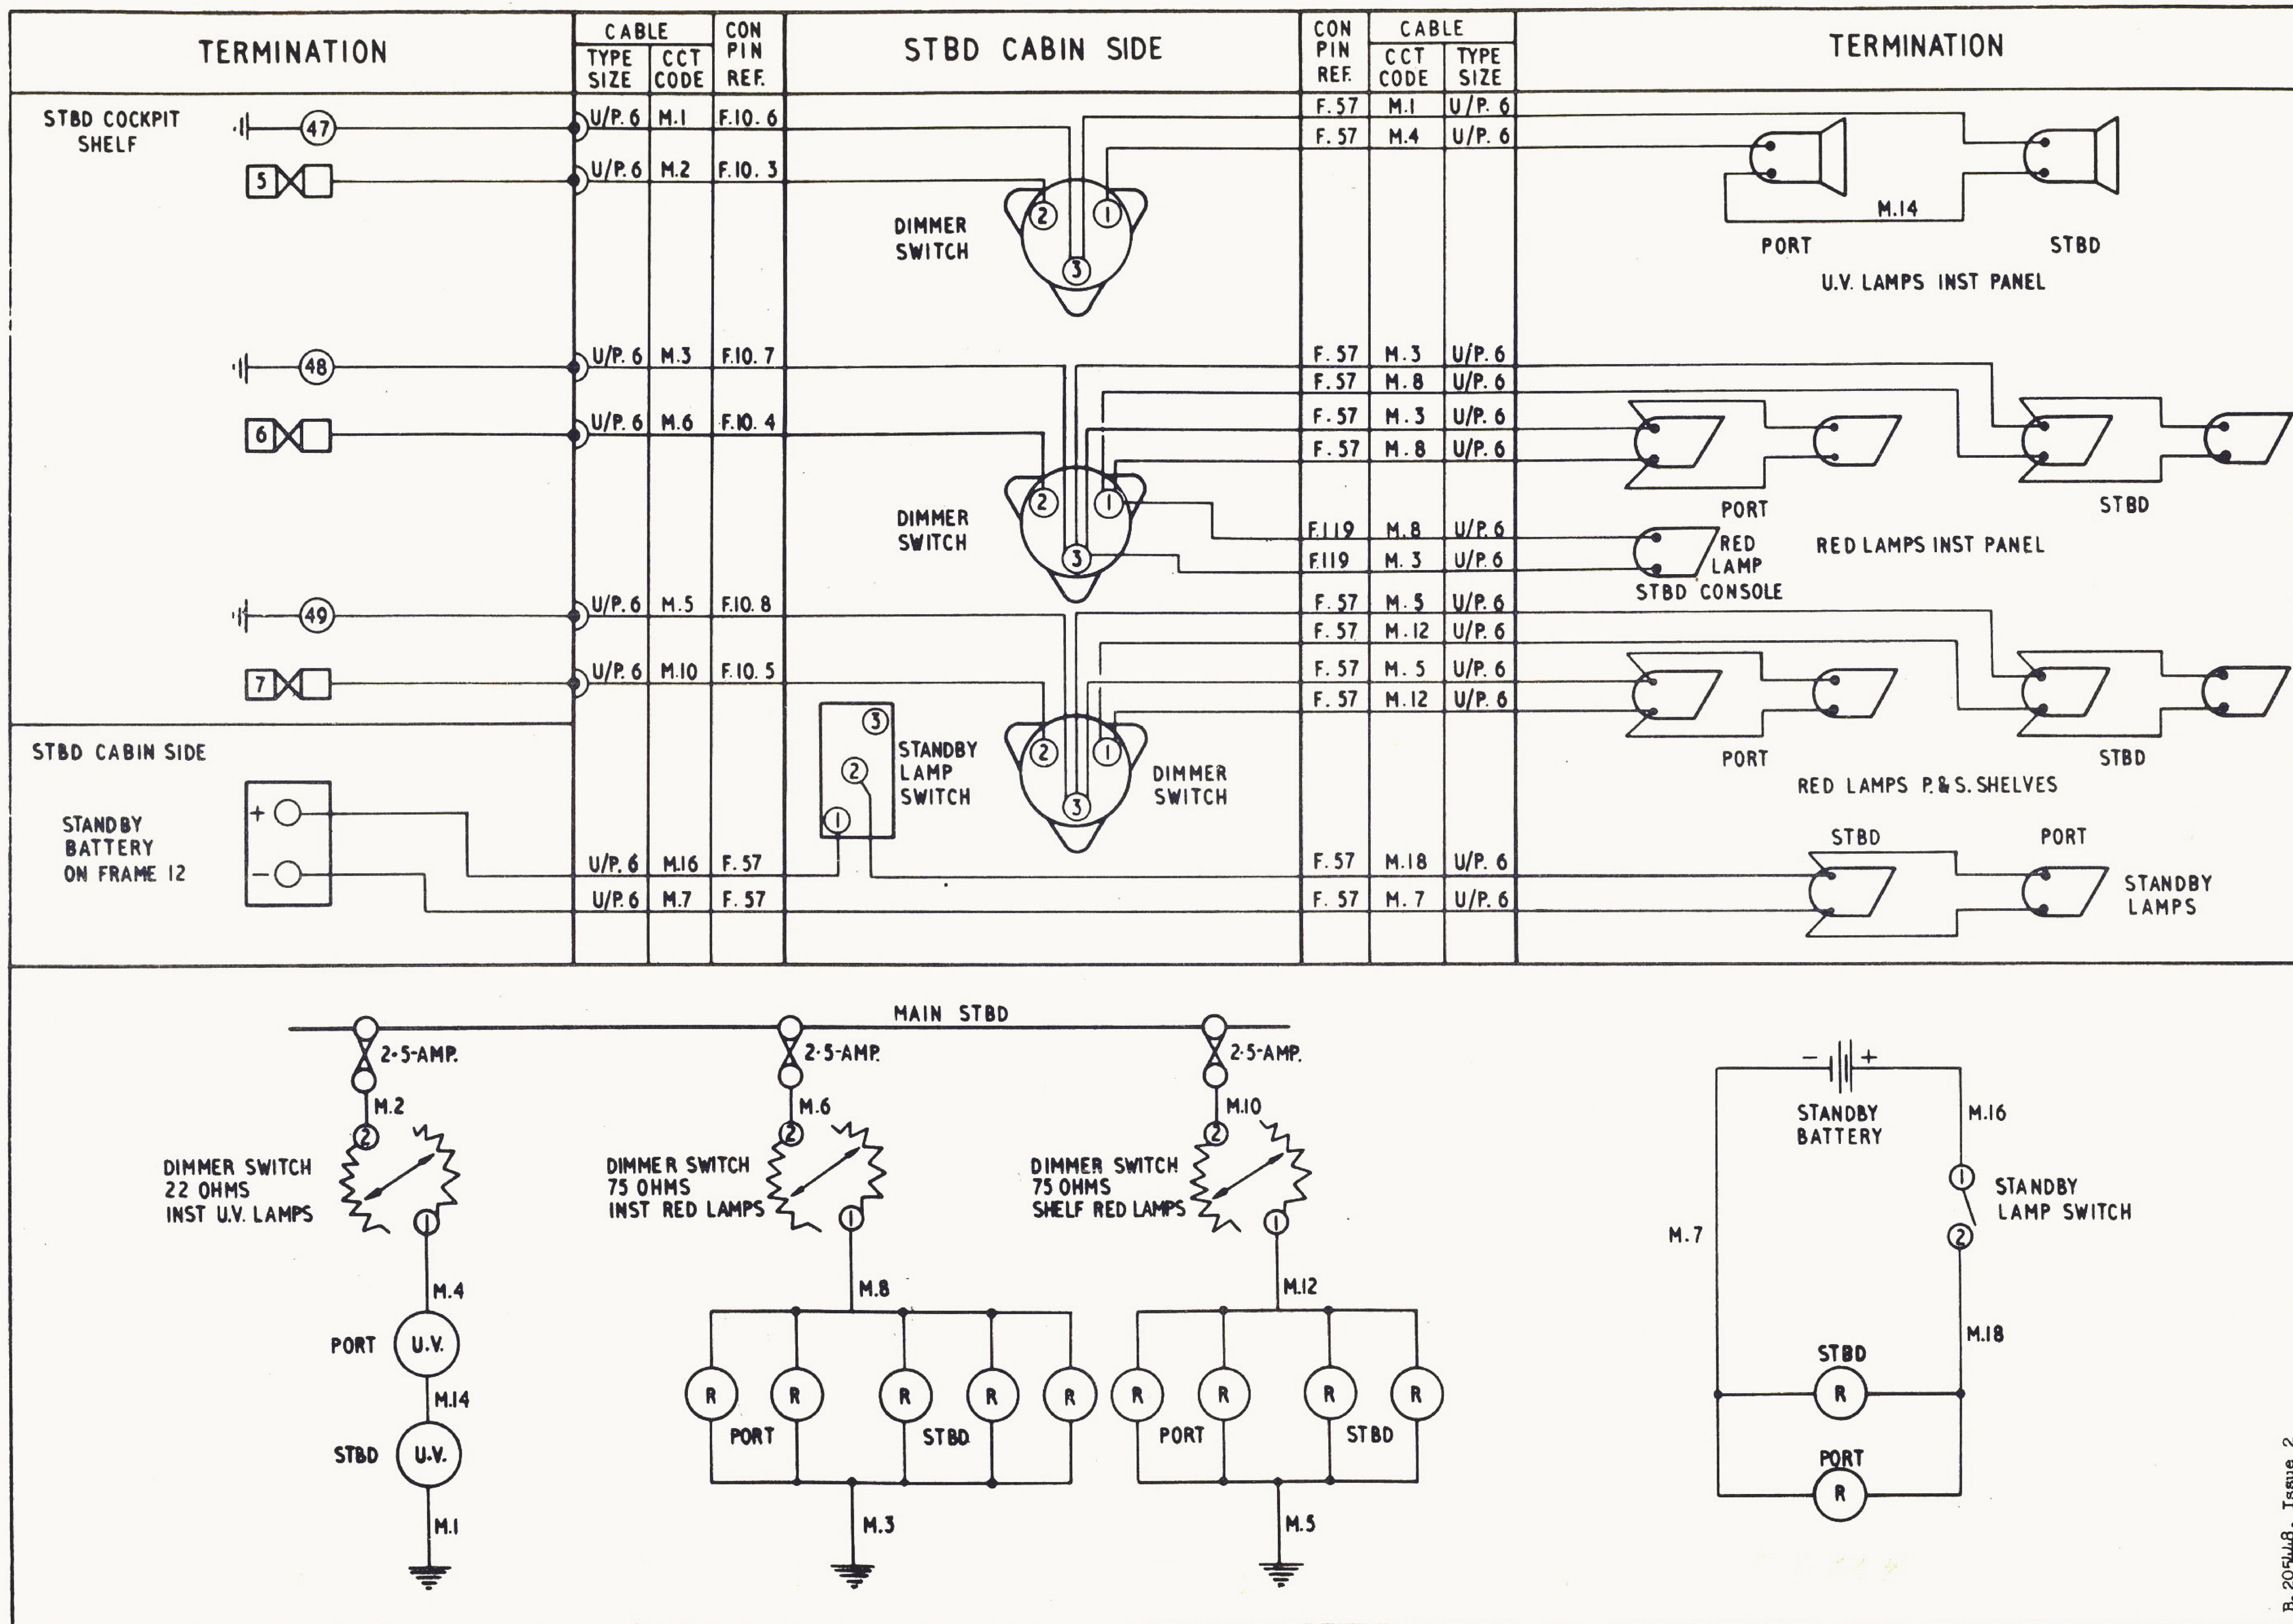

FIG. 1 CABIN LIGHTING RESTRICTED
2. The cabin lighting installation consists of four separately controlled circuits supplying lamps to illuminate the instrument panels and cabin shelves. The following paragraphs describe each of these circuits in turn. Routing and theoretical diagrams of the circuits are given in fig.1.
7. The operation of the circuits should be obvious once reference is made to the theoretical diagrams, given in fig.1 of this group.